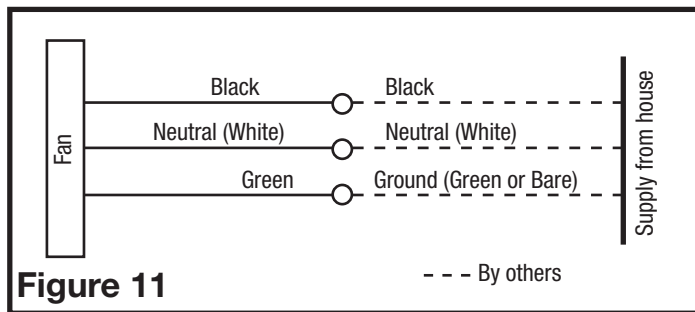

Figure 11
5. For two speed fans wired for continuous ventilation, connect the White wire of the fan to the White (Neutral) wire from the power source. Connect the ground wire from the house to the green wire from the fan housing. Connect the Black wire of the fan to the Black wire (Hot) from the power source (**Figure 11**).
- 3a. **STANDARD MODELS:** Plug the fan's 2 pin and 3 pin quick connect motor cords into the corresponding receptacle located on the wire compartment cover. These cords will only fit one way into the receptacles (**Figure 11**).